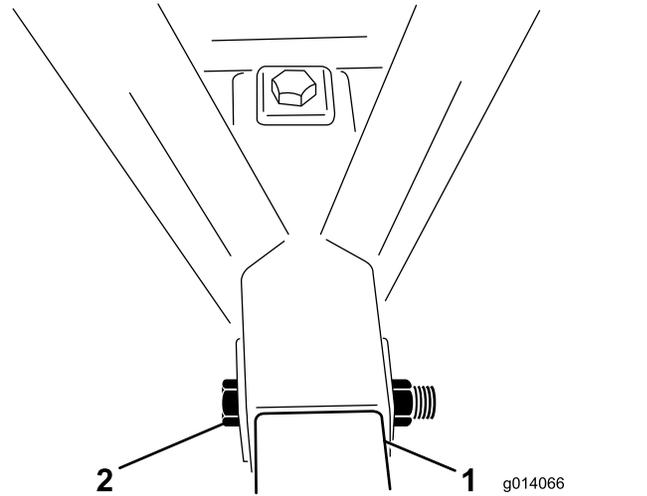

Figure 4
5. Place a bolt (1 x 6-1/2 inch) through the frame and hitch tube and secure it with a locknut (Figure 4). Torque the locknut to 976 to 1,193 N-m (720 to 880 ft-lb).
6. Place a bolt (1 x 6-1/2 inch) through the top of the frame and down through the hitch tube and secure it with a locknut (Figure 4). Torque the locknut to 976 to 1,193 N-m (720 to 880 ft-lb).